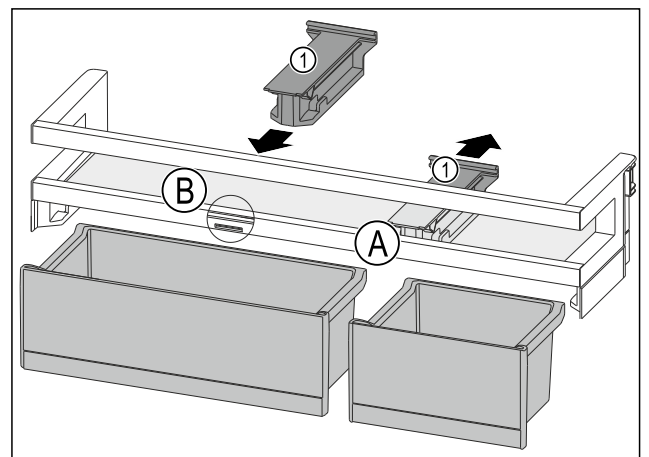

Fig. 168
- Take off the holding part Fig. 168 (1) in position Fig. 168 (A) backwards.
- Insert the holding part Fig. 168 (1) in position Fig. 168 (B).